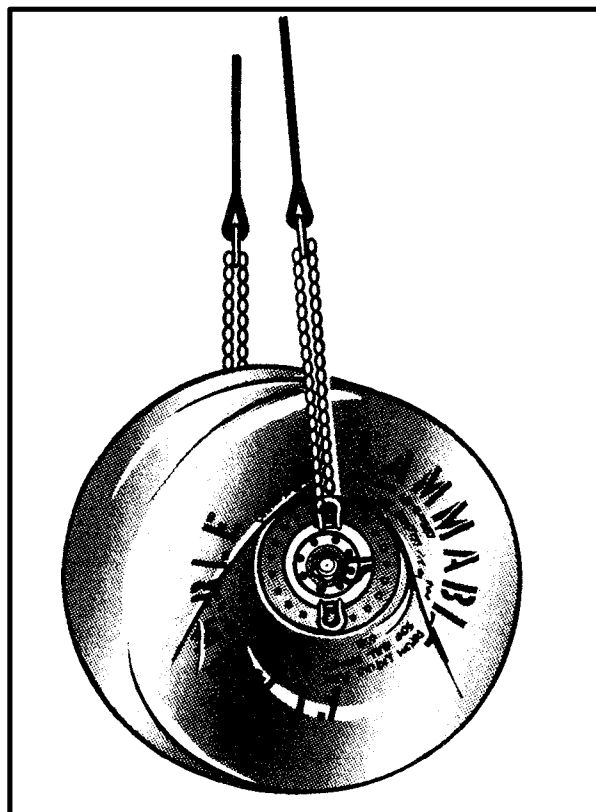

Figure 6-9. Load with Two Lift Points
(2) You may rig a load such as a fuel drum that has only two lift points. In this case, run two chains through each hookup point. This will allow the full capacity of the sling to be used. If the load is less than half the capacity of the sling set, you can use just two sling legs, one leg to each hookup point as shown in Figure 6-9.